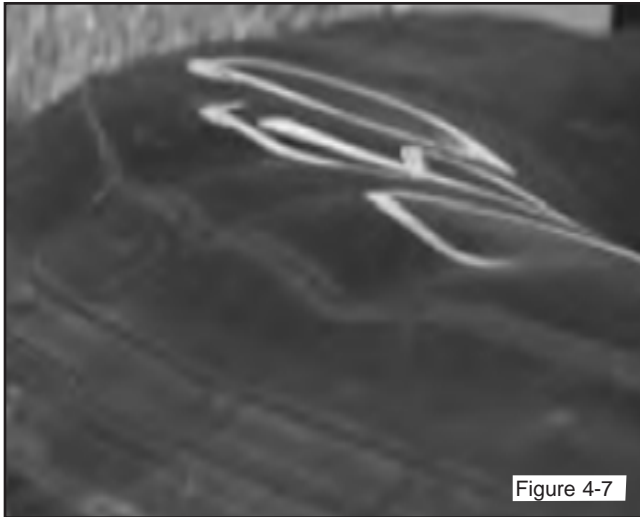

Figure 4-7
4. Inflate the tire, with the valve core removed, using a clip-on air chuck with an in-line valve or pressure regulator and a sufficient length of hose. Inflate to 20 psi in OSHA compliant restraining device. **IMPORTANT!** Look for distortions, undulations, or other irregularities in the tire sidewall. Listen for any popping or snapping sounds. See Figure 4-7. The OSHA compliant restraining device should not be bolted to the floor.
7. After the tire beads are seated, continue to inflate the tire to its recommended inflation pressure. IMPORTANT! Look for distortions, undulations, or other irregularities in the tire sidewall, such as in Figure 4-7. Listen for any popping or snapping sounds.